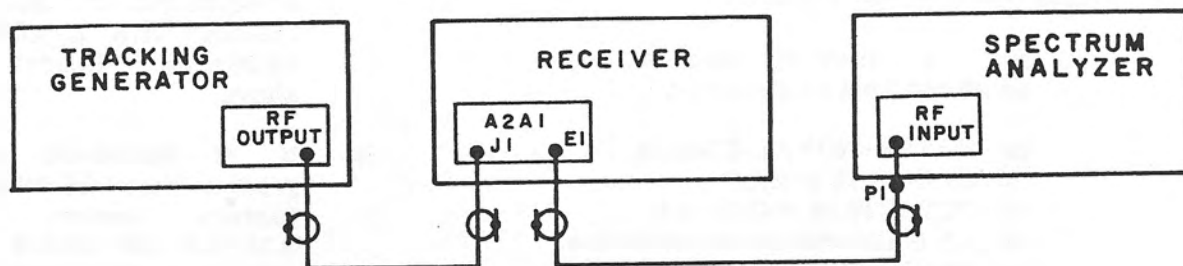

Figure 6-1. RF Filter Alignment, Test Setup
- (1) Deenergize receiver.
- (2) Connect test equipment as shown in Figure 6-1.
- (3) Set the following tracking generator front panel controls as indicated:
- (4) Set the following spectrum analyzer front panel controls as indicated:
- (5) Energize receiver.
- (6) Tune spectrum analyzer to 30.000 MHz with FINE TUNE switch off.
- (7) Set the tracking generator MARKER position to 42.905 MHz.
- (8) Connect tracking generator rf output to spectrum analyzer rf input.
- (9) While observing the spectrum analyzer, adjust LOG REF LEVEL for full scale deflection.
- (10) Reconnect test equipment as shown in figure 6-1.